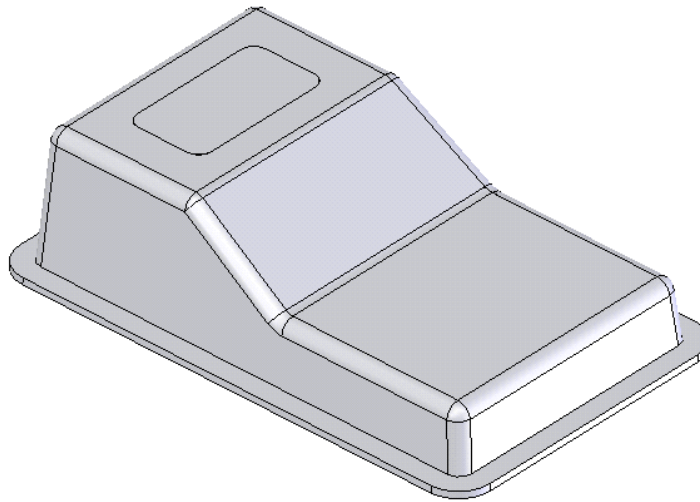

Figure 17-37 Model after creating the shutoff surface
4. Choose the **OK** button from the **Planar Surface PropertyManager**. Model after creating the shutoff surface using the **Planar Surface** tool is shown in Figure 17-37.